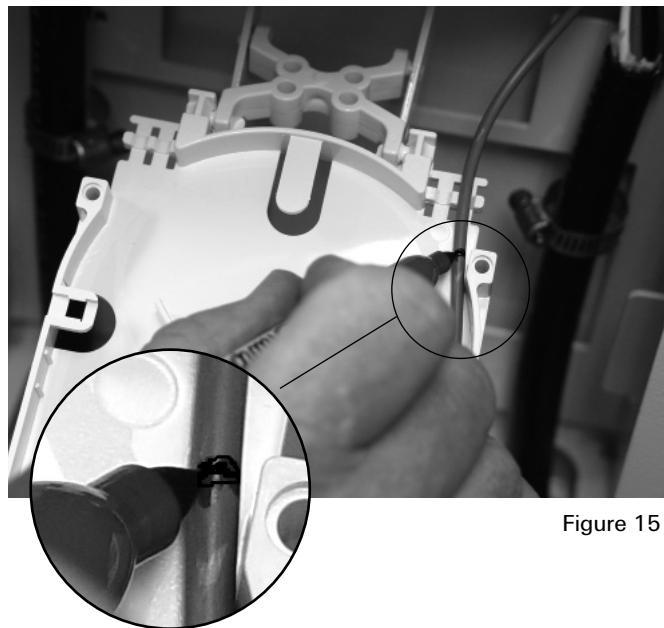

Figure 15
3. Place buffer tube(s) onto trays and make a mark 1" past the bottom of the tray. Ring cut and remove buffer tube(s) and clean fibers. (Figure 15)